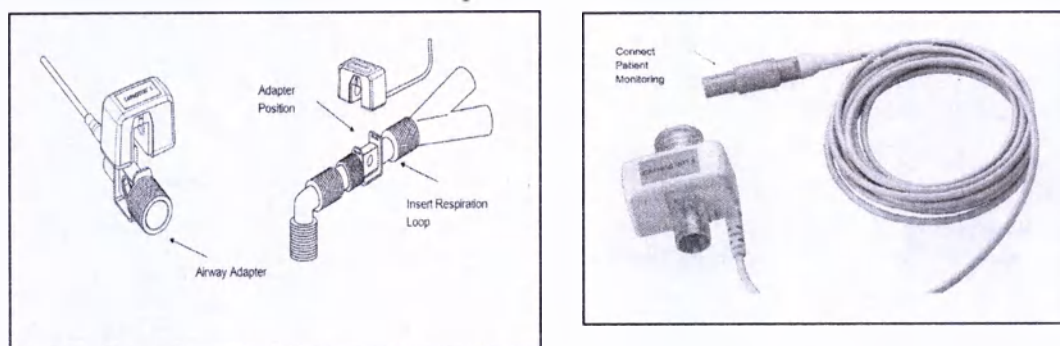
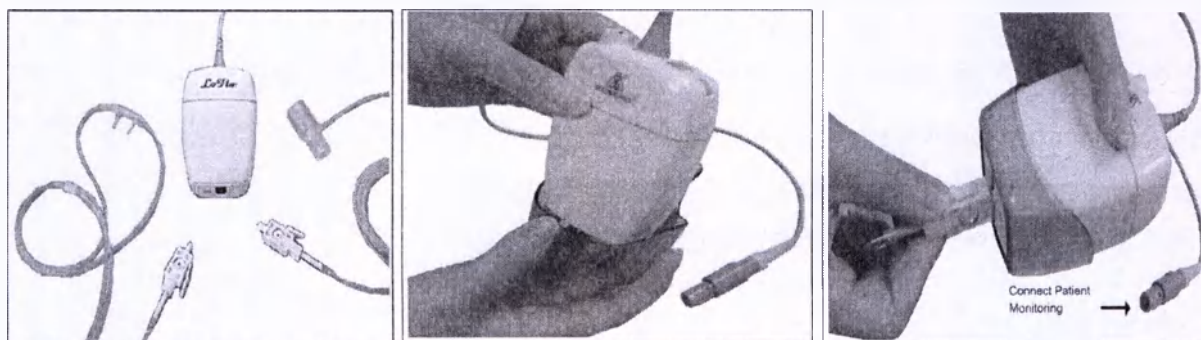

Figure 15-4 Mainstream Mode CO₂ Connection
Figure 15-5 Sidestream Mode CO₂ Connection Schematic
- (1) Start the host monitoring equipment (if a minihost is used, please start the minihost monitoring equipment at the same time).
- (2) Or insert the CO₂ plug-in module into the host monitoring equipment; the indicator of the CO₂ plug-in module will illuminate, which means that the module has been successfully connected to the host monitoring equipment; otherwise, please reinsert the CO₂ plug-in module.
- (3) Make connections according to the CO₂ module type or Figure 15-4 or Figure 15-5, and connect the CO₂ module interface cable to the CO₂ interface of the CO₂ plug-in module or the minihost.
- (4) Enter into the conventional screen of the host monitoring equipment, select [Exchange Waveform] to call out the “CO₂” waveform and parameters which you want to monitor, such as [CO₂] (this step can be skipped if the screen has already displayed the “CO₂” waveform and parameters).
- (5) When the CO₂ module is connected to the monitor, its module working mode is in the “Measurement” state; however, in order to make sure that it is in the correct working state, please do enter into the [CO₂ Settings] menu to set its “Working Mode” to the [Measurement] mode.
- (6) Set [CO₂ Switch] to [On].
- (7) In the [CO₂ Settings] menu, set [Oxygen Compensation] to 21 (usually, although it is 21 in this menu, in order to make sure that its datum is in an activated state, the customer still needs to reselect it);
- (8) In the [CO₂ Settings] menu, select an appropriate [Balancing Gas]: Indoor air, laughing gas or helium (usually if there is no unused laughing gas or helium indoors, you can just select indoor air);
- (9) In the [CO₂ Settings] menu, select a correct [Altitude]: 0~5029. 2m, instrument default: 0m; mainly refer to the following table for its standard: